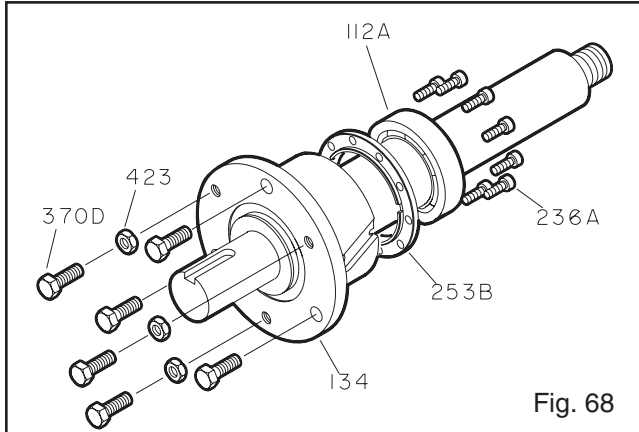

Fig. 68
3. Remove jack screws (370D) with nuts (423) (Fig. 68).
4. Remove clamp ring screws (236A). Separate clamp ring (253B) from bearing housing (134).